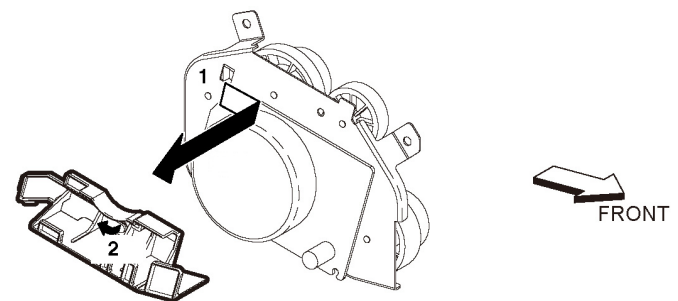

Figure 2 Lower LPH color FFC guide removal
11. Release the hook (1), then remove the lower LPH color FFC guide (2), Figure 2.